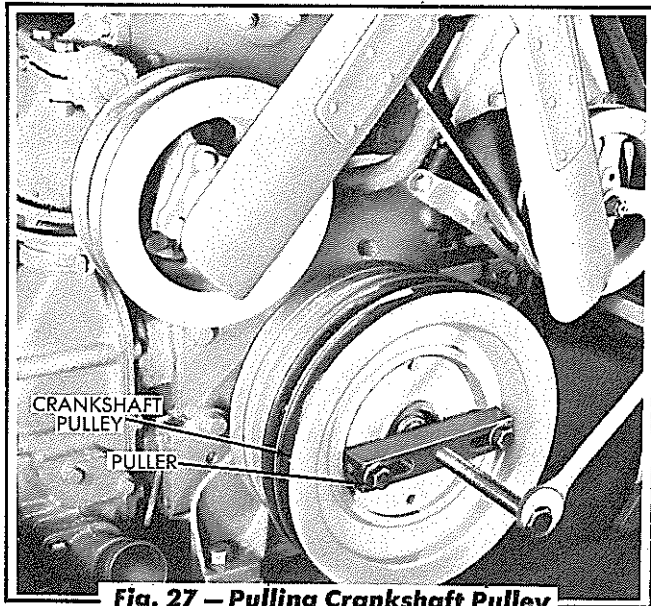

Fig. 27 — Pulling Crankshaft Pulley
3. Remove the capscrew and washer used to retain the crankshaft pulley. Using a puller similar to the one shown in Fig. 27, remove the crankshaft pulley from the crankshaft, then remove the two (2) "WOODRUFF" keys.
4. Using a puller (similar to the one shown in Fig. 27) inserted in the two tapped holes of the hub, pull the damper and hub assembly, together with the outer cone, from the crankshaft. **CAUTION.** Do not drive on the damper when removing.